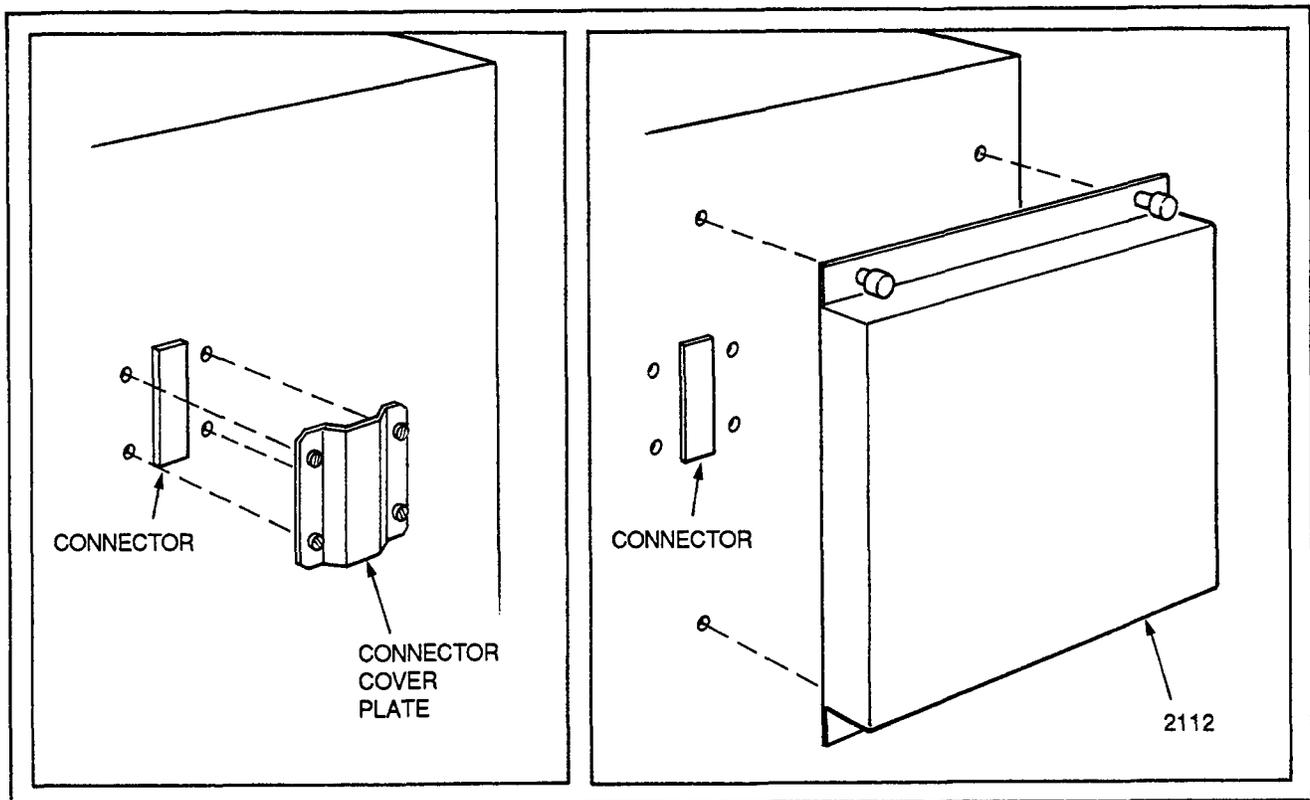

Figure 2-2. Installing the 2112
2. Locate the connector on the side panel of the 2050/2060 or bottom panel of the 2000 or 2005. The connector is covered by a metal plate as shown in Figure 2-2 below.